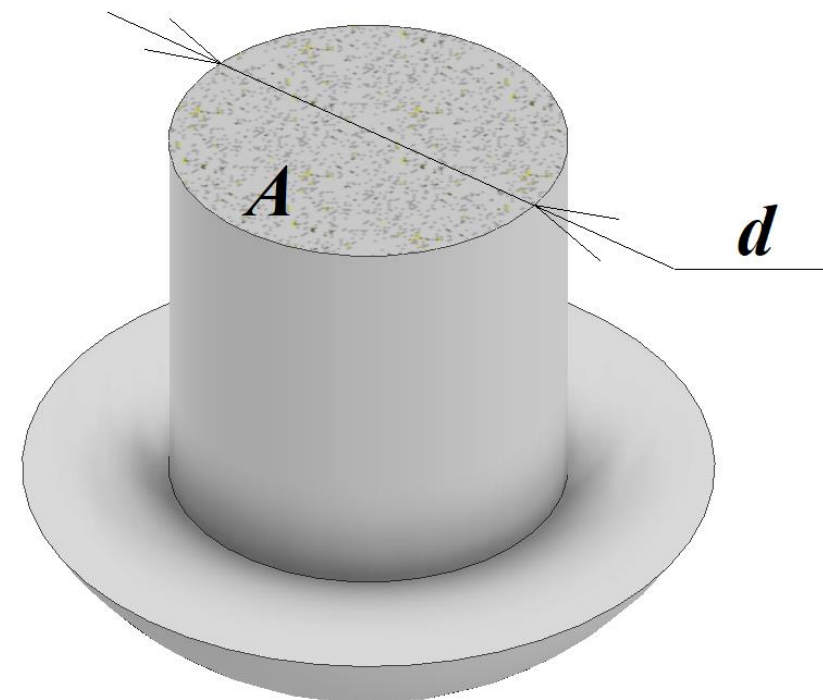

Fig. 3 – Solid rivet cross-section scheme
3. Determine minimum rivet **cross-section area**  $A_{\min}$  (**Fig. 3**), which satisfies the safety margin  $n_{\min} = 3$ .